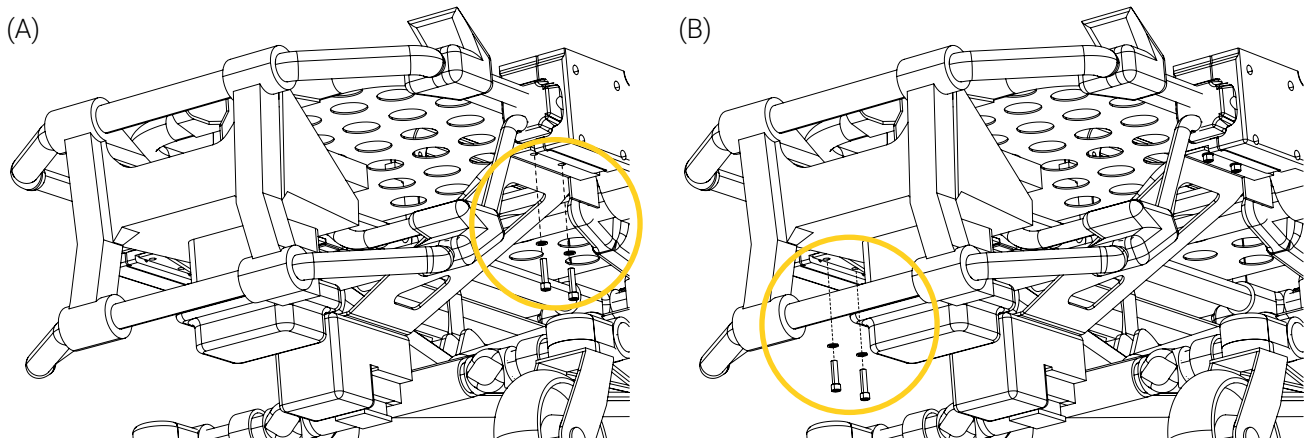

Figure 14: Reinstalling the Power-LOAD system
- Reinstall and partially tighten the Power-LOAD system reusing the four (4) socket head screws $\frac{1}{4}$ - 20 in. and the four (4) washers using an Allen key $\frac{3}{16}$ in. (Figure 14).